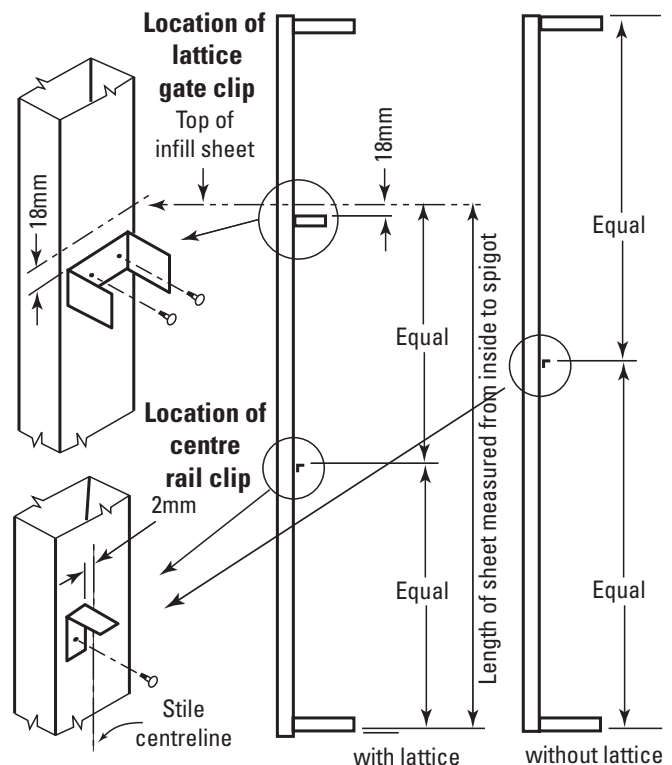

Figure 22.3
3. If your gate includes a 'Plus Option' (lattice or slats), mark the position of the two lattice gate clips. Fasten the clips to the stiles using two hex. head screws #10–16x16 for each (Figure 22.3).
4. Mark the position of the two centre rail clips, with the inner edge of the clip 2mm from the centreline of the stile, and fasten them to the stiles using a hex. head screw #10–16 x 16 for each (Figure 22.3).